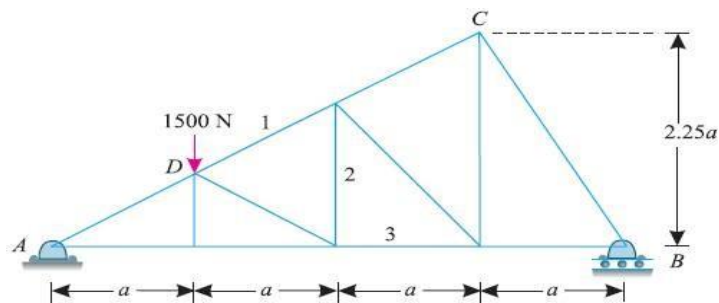

fig.30
3. A plane is loaded & supported as shown in fig.30. Determine the nature and magnitude of the forces in the members' 1,2 and 3. [10 M]